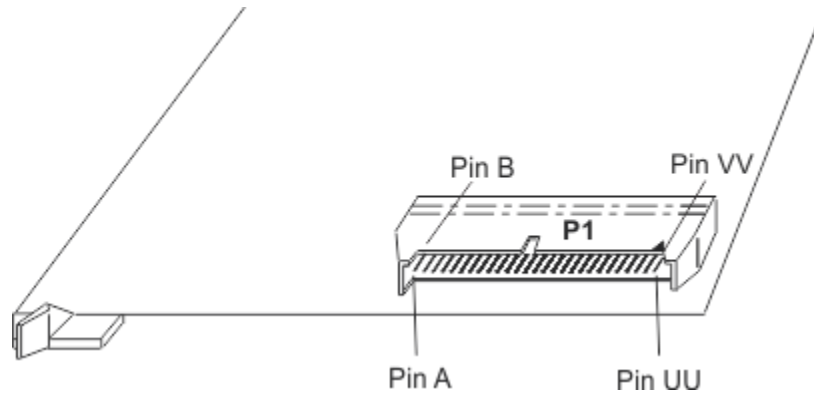

Figure 1-6: DCQ-2400 I/O Connector
- Figure 1-6: DCQ-2400 I/O Connector 8
Cable the DCQ-2400 controller to the panel. Align the triangle on the cable connector with the triangle of the panel connector. See Figure 1-6